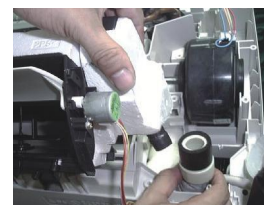

Fig 10
1. Separate the drain hose and the drain plate(Fig. 10)